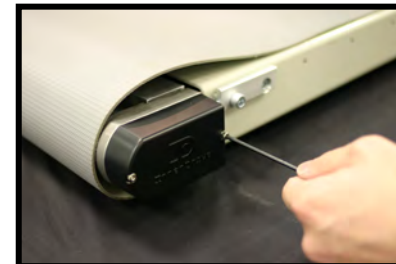

Figure 4
d. Remove the black Drive Cover by using a 7/64" Allen Wrench to remove the two Socket Head Screws holding it in place (**Figure 4**).